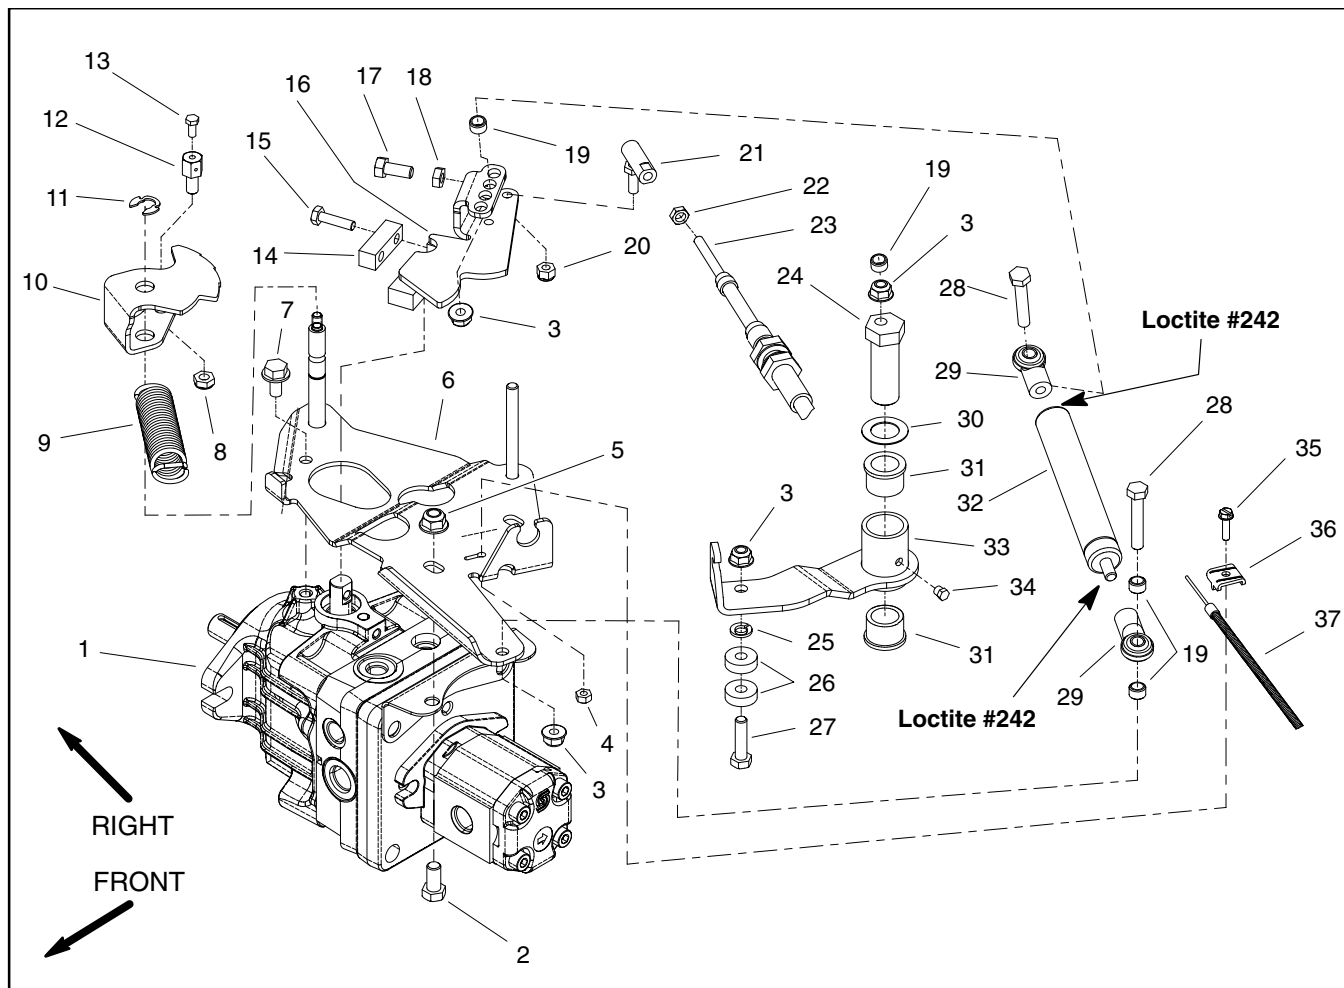

Figure 28
### Disassembly (Fig. 28)
4. Remove components from pump control assembly as needed using Figures 28, 29 and 30 as guides.
### Assembly (Fig. 28)
1. Install removed components to pump control assembly using Figures 28, 29 and 30 as guides.